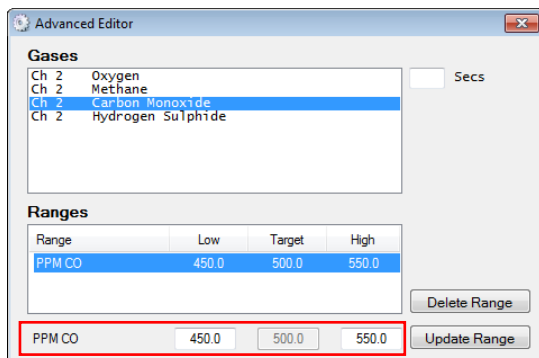

Fig. 3-29 Edit Gas Range
1. To edit the gas limits, select a gas range, e.g. Carbon Monoxide, to display gas and corresponding ‘Low’, ‘Target’ or ‘High’ values in the editing panels, as illustrated in Fig. 3-29.